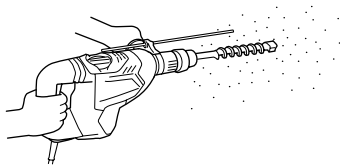

Fig. 5
- How to drill holes (Fig. 5)
- (1) Pull the switch trigger after applying the drill bit tip to the drilling position.
- (2) It is unnecessary to forcibly press the Rotary Hammer main body. It is sufficient to slightly press the rotary hammer to an extent that clips are freely discharged.